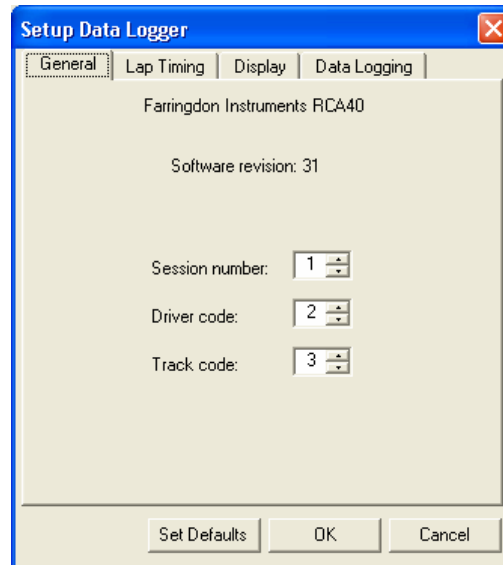

Figure 28 - Setup Data Logger Dialog (General Page)
2. Connect the data logger to the serial port of the host computer using the cable provided and click **OK**. The current configuration of the lap timer is transferred to the host computer and the Setup Data Logger Dialog (Figure 28) appears.
Click the **General** tab to display the General page (Figure 28) of the Setup Data Logger Dialog.